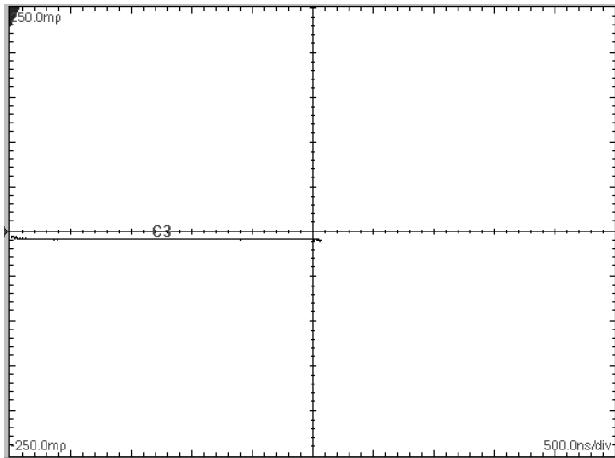

Figure 16: TDR step of undamaged sampling module
- If checking an 80E04 sampling module and your instrument has TDR capability, attach a $50\ \Omega$ termination to the channel input and perform a TDR measurement of the attached fitting. Adjust the HORIZONTAL SCALE to 500 ns per division. This should display the entire TDR step from edge to edge. Display the step top at 40 m Ω per division and check for flatness. If the top is bowed, sagged, hooked, or tilted, assume static has damaged the module and service is required. See Figure 16 on page 44.